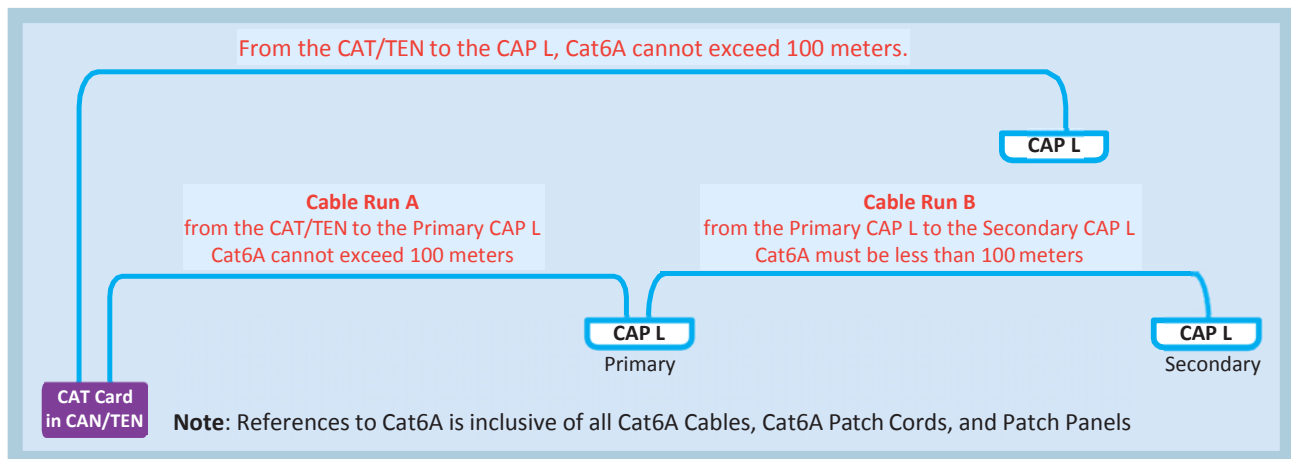

Figure 16. CAP L Cat6A Cable Lengths
- The maximum Cat6A cable lengths for an installation with CAP Ls with a Copper Interface are listed below (see Figure 16).